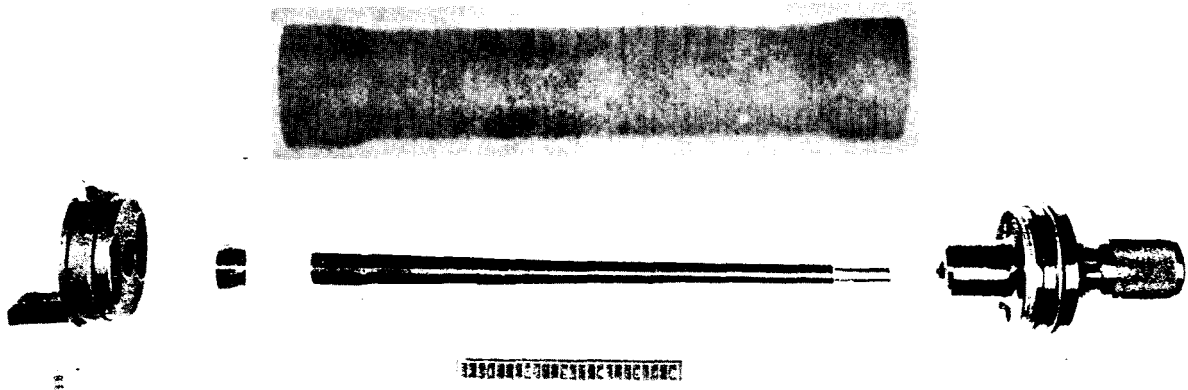

Figure 16.1. Major components of the 7.62mm subcaliber gun, M49A1.
b. The M49A1 subcaliber device (fig. 16.1) consists of a long, cylindrical sleeve, a barrel, a bushing with an integral hinge, a locknut housing, a firing pin and attaching hardware. The device utilizes a case blow-out principle through six equally spaced holes in the chamber shoulder section of the barrel. These holes permit the cartridge case to be blown out, and limit the pressure which in turn lowers the velocity to match ballistically the major caliber round.
Page 18. Figure 16.1 is added as follows: